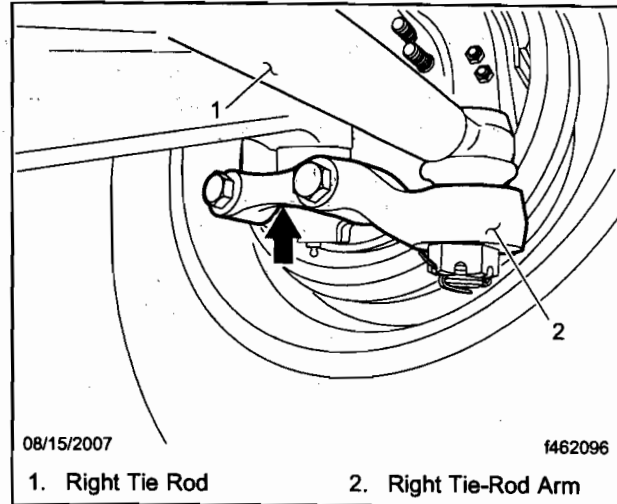

Fig. 2, Part Number Location, Right Tie-Rod Arm
- 4.3 From underneath the right side of the vehicle, check and record the raised part number on the lower surface (facing the ground) of the right tie-rod arm. See Fig. 2.